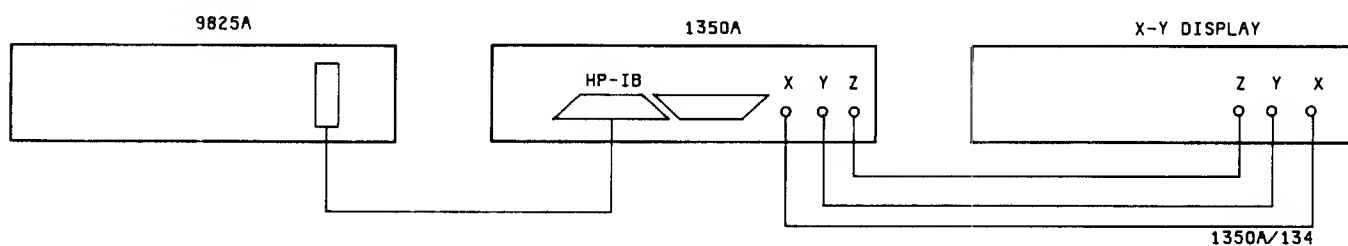

Figure 5-3. Equipment Setup
- c. Connect and secure HP-IB cable from 9825A to rear of 1350A. Equipment should appear as in figure 5-3.
- a. Connect equipment as shown in figure 5-3.